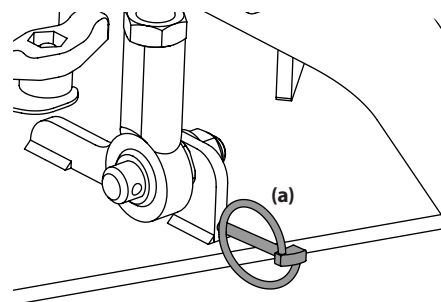

Figure 4-13
4. Remove the four lynch pins (a) that secure the deck to the deck lift assembly. See Figure 4-13.